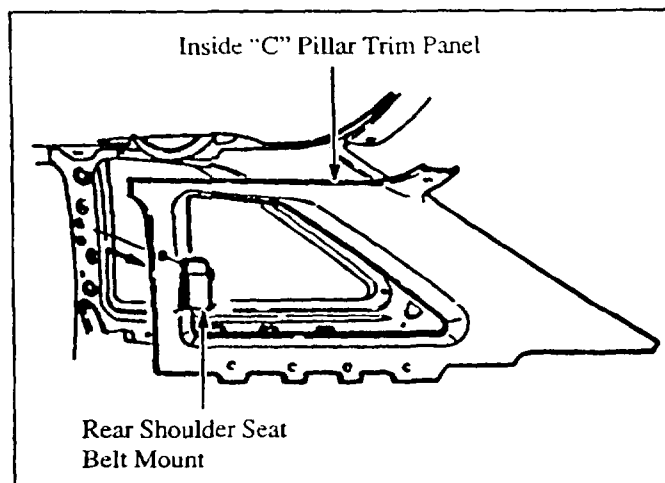

Figure 30: Removing Inside "C" Pillar Trim Panel
1. Remove rear header trim, rear shoulder mounts, and inside "C" pillar trim panel(s). **Figure 30.**
1. Remove the rear header trim, rear shoulder seat-belt mounts, and inside "C" pillar trim panel(s). **Figure 30.**